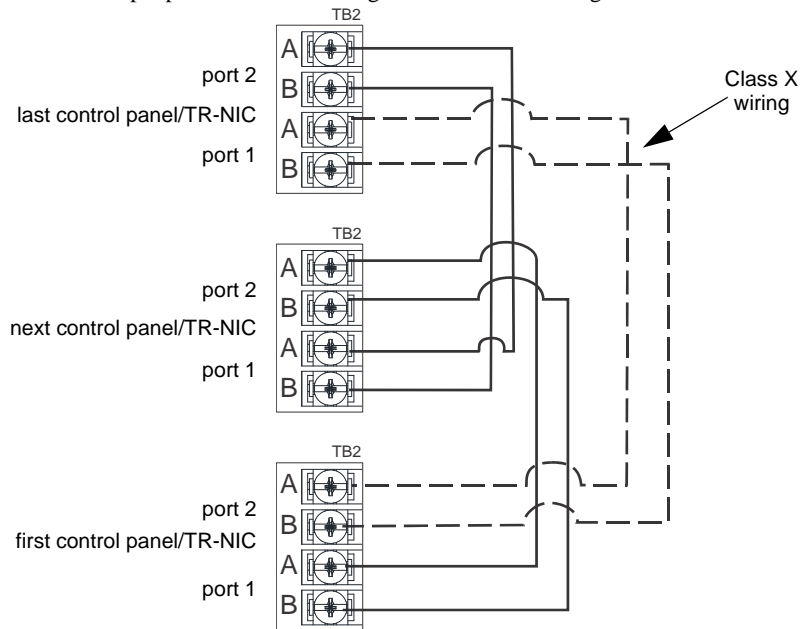
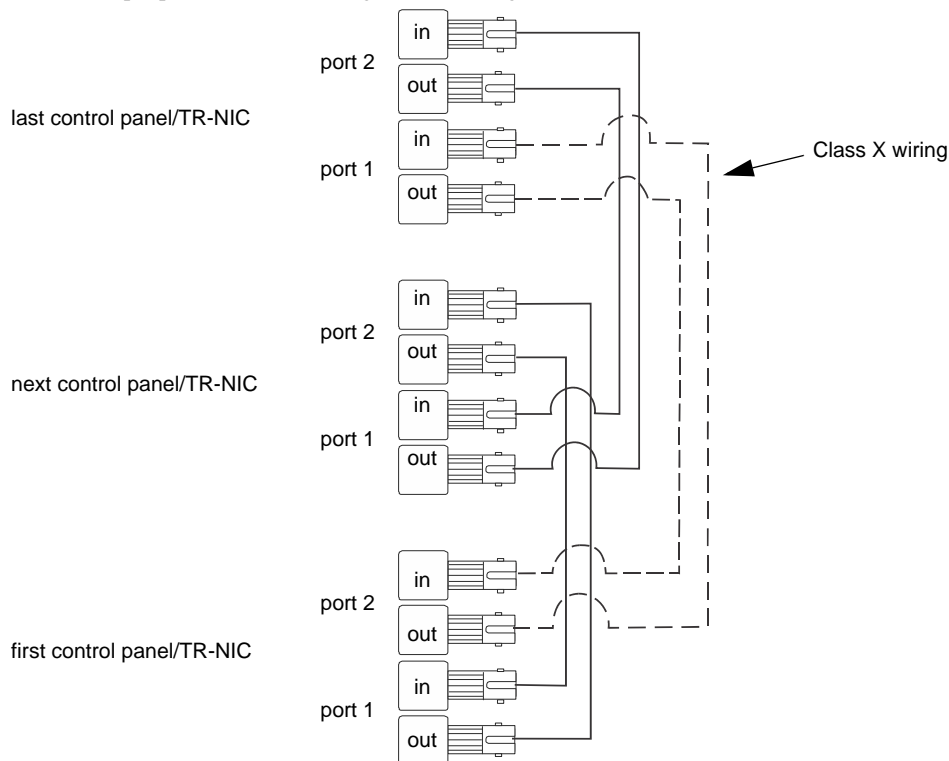
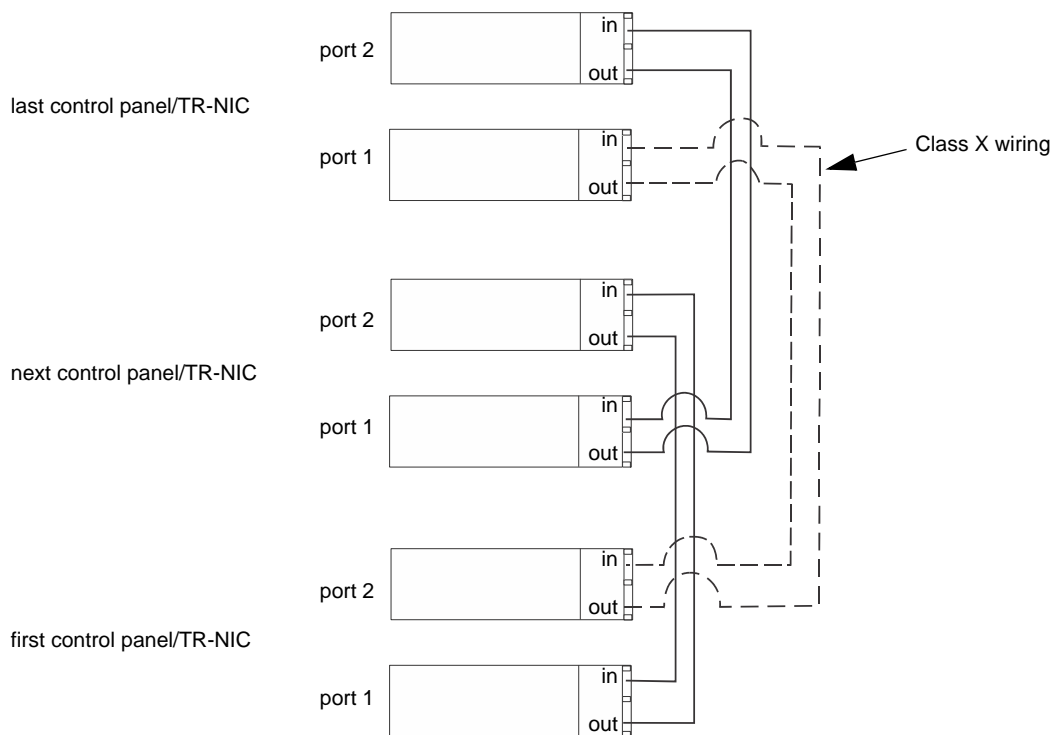
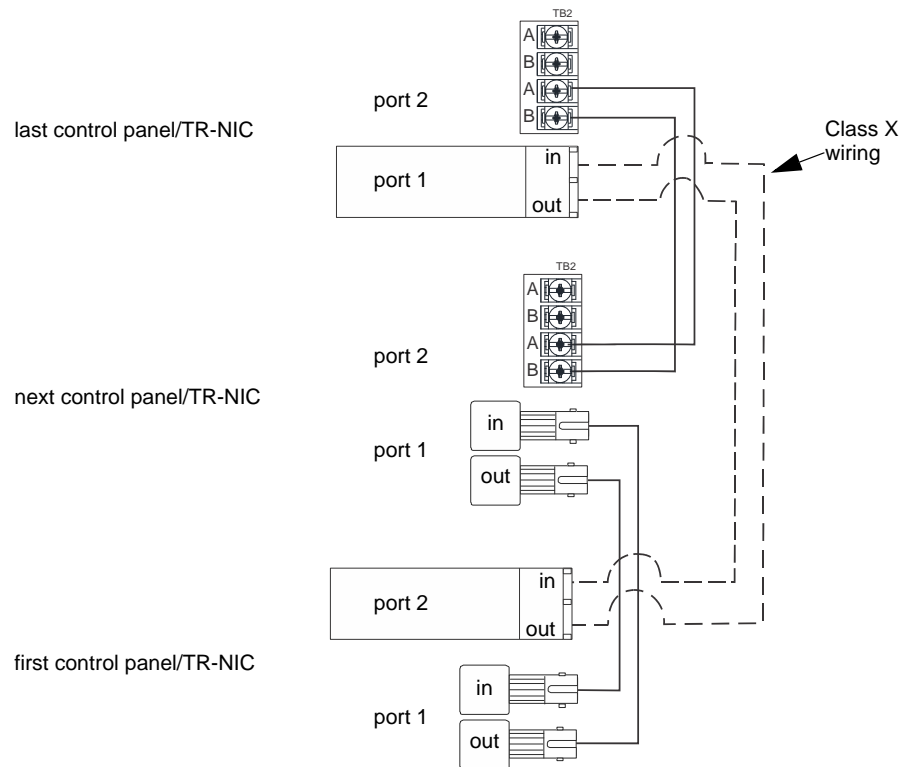

Figure 5.7 Twisted Pair Wiring Configuration
Figure 5.8 Fiber-Optic Wiring Multi-Mode Example
Figure 5.9 Fiber-Optic Wiring Single-Mode Example
Figure 5.10 Twisted-Pair and Fiber-Optic Combination Wiring Example
5. Based on the type of data medium chosen, run the twisted pair wiring/fiber optic cable to the next TR-NIC using a class B or class A wiring method. A combination of both medium types can be used. See Figure 5.7, Figure 5.8, Figure 5.9, and Figure 5.10 for TR-NIC wiring examples.
Unshielded twisted pair wiring between multiple panels is shown in Figure 5.7. Class X wiring is shown with a dotted line.
Fiber optic cable between multiple panels is shown in Figure 5.8 and Figure 5.9. Class X is shown with a dotted line.
A mixture of fiber optic cable and twisted pair wiring between multiple panels is shown in Figure 5.10. Class X cabling is shown with dotted line.